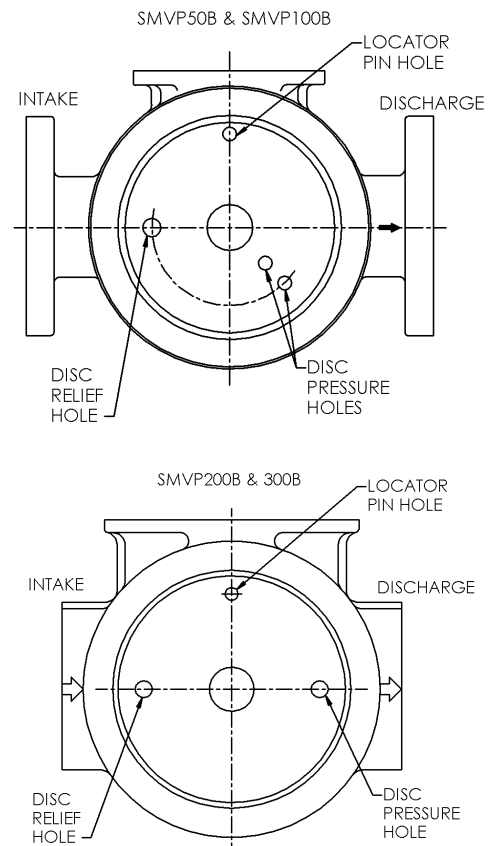

Figure 4 – SMVP Models
2. Install the disc (71) on the outboard end of the cylinder with the disc holes positioned as shown in Figure 4. Use the dowel locator pin hole to locate the disc.
3. Install a new head seal ring / O-ring (72) in the groove provided between the disc and the cylinder.